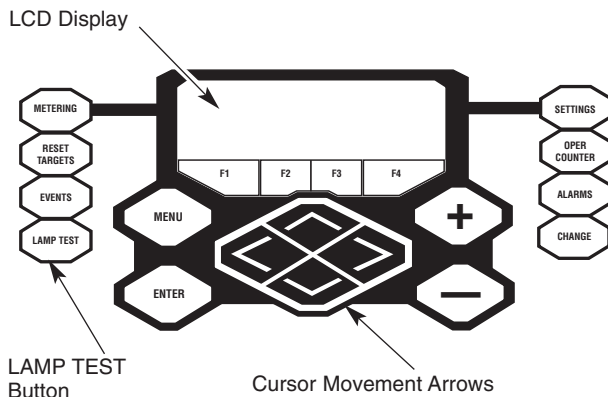

Figure 40. Lamp Test button, LCD display, and cursor movement arrows.
1. Verify operating status of all indicator lights by pressing the LAMP TEST key on the programming panel (Figure 40).
Note: Scroll through the LCD display messages by pressing the \blacktriangle and \blacktriangledown cursor movement arrows underneath the LCD display on the programming panel (Figure 40).